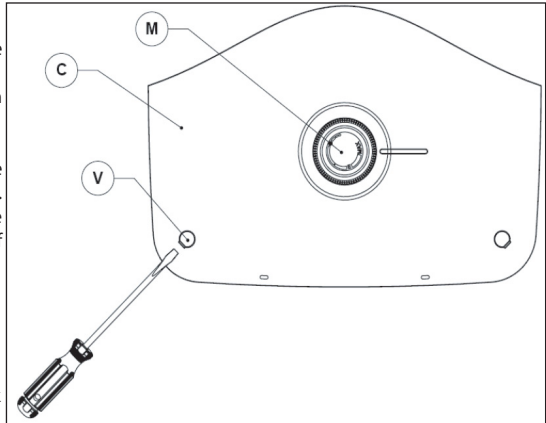

Figure 6 - Water Heater Cover and Thermostat Detail
The temperature of the hot water is adjusted by rotating the knob (M, see Figure 6) located on the front cover.
- Pry off the round knob cover plate (Figure 6, M) with a small flat head screwdriver.
- Pry off the screw covers (Figure 6, V) with a small flat head screwdriver.
- The cover (Figure 6, C) can now be removed by pulling out its left hand edge. When reassembling, work in the opposite way, being careful to insert the tongue of the cover into the slot.